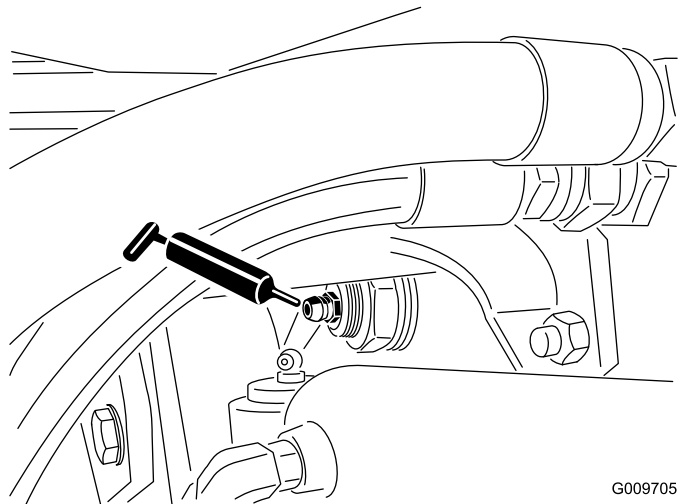

Figure 21
- Rear axle pivot bushings (2) (Figure 21)